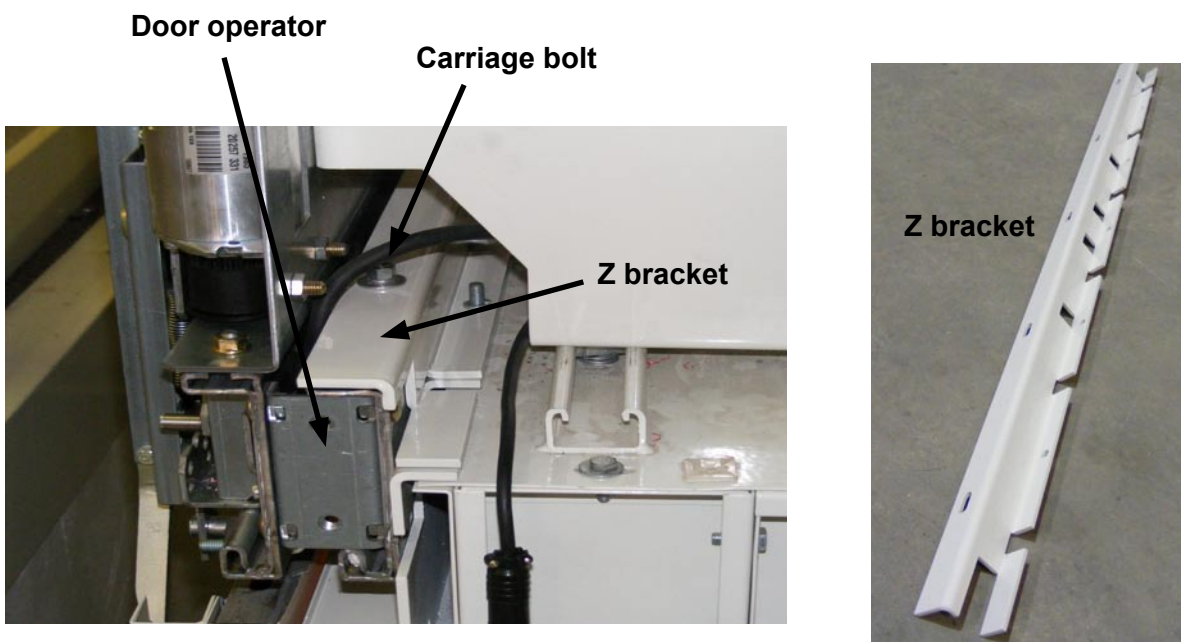

Figure 34 Z Bracket and Carriage Bolts
- 3) First, attach the Z bracket to the door operator (Figure 34), ensuring that it is oriented as shown below. Secure the Z bracket to the door operator with a nut and washer on each of the five carriage bolts.